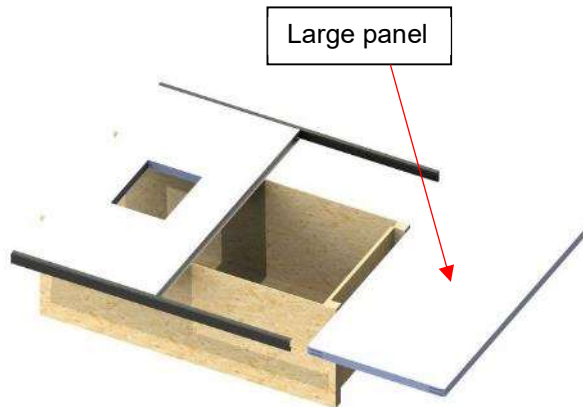

Figure 56
- 10) Slide the large (approx. 47" x 96" [119 cm x 243 cm]) panel into the C-channels. Ensure the I-beam has slid over the panel on both the bottom and top side (Figure 56).